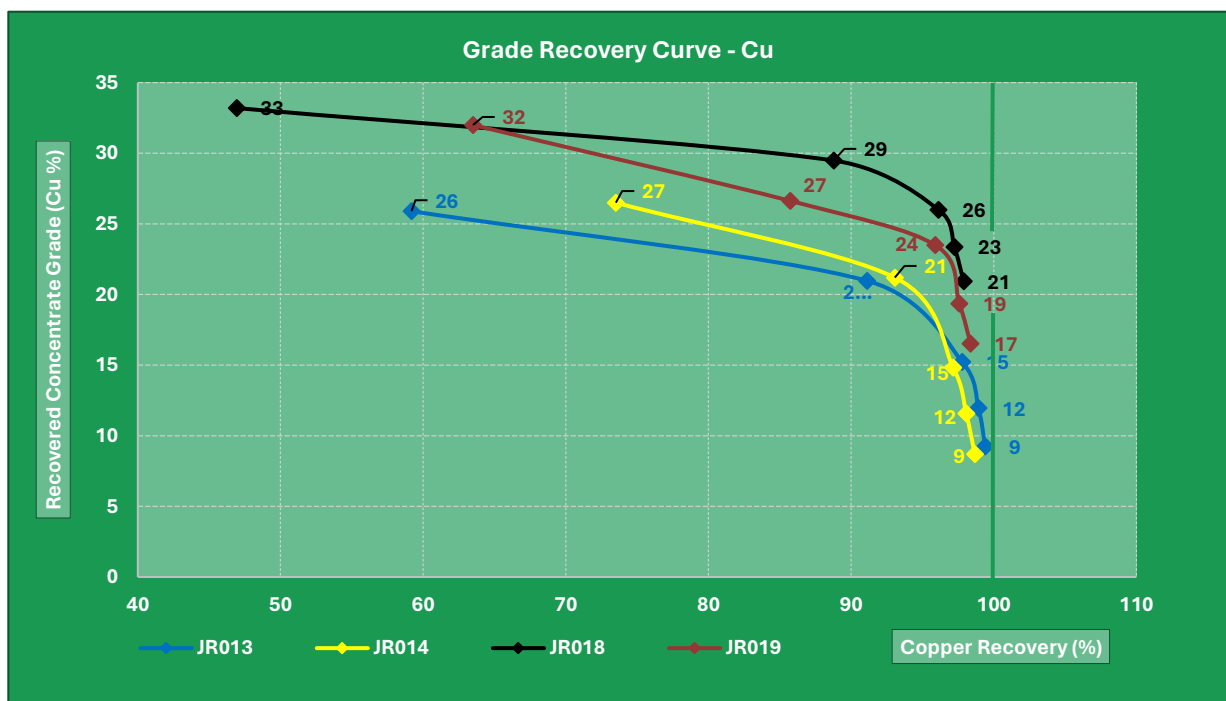

Figure 1 – Grade and recovery curves for BB_45_1
- Initial results of early test-work show that up to 97% of the copper in a drill-core composite from the Bluebird project can be extracted via conventional flotation, delivering a copper concentrate grading 23% copper (Cu) and 1.5 g/t gold (Au) (see grade recovery curves, Figure 1).
The flotation copper grade and recovery graphs for these tests are provided in Figure 1 and the concentrate grade and recovery results are summarized in Table 1, below.